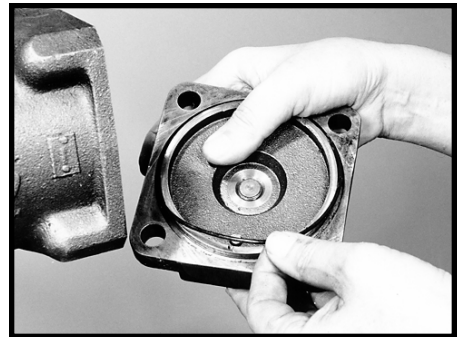

Figure 58
18. Remove and discard the end cover seal ring (9) from the end cover (37). SEE FIGURE 58.